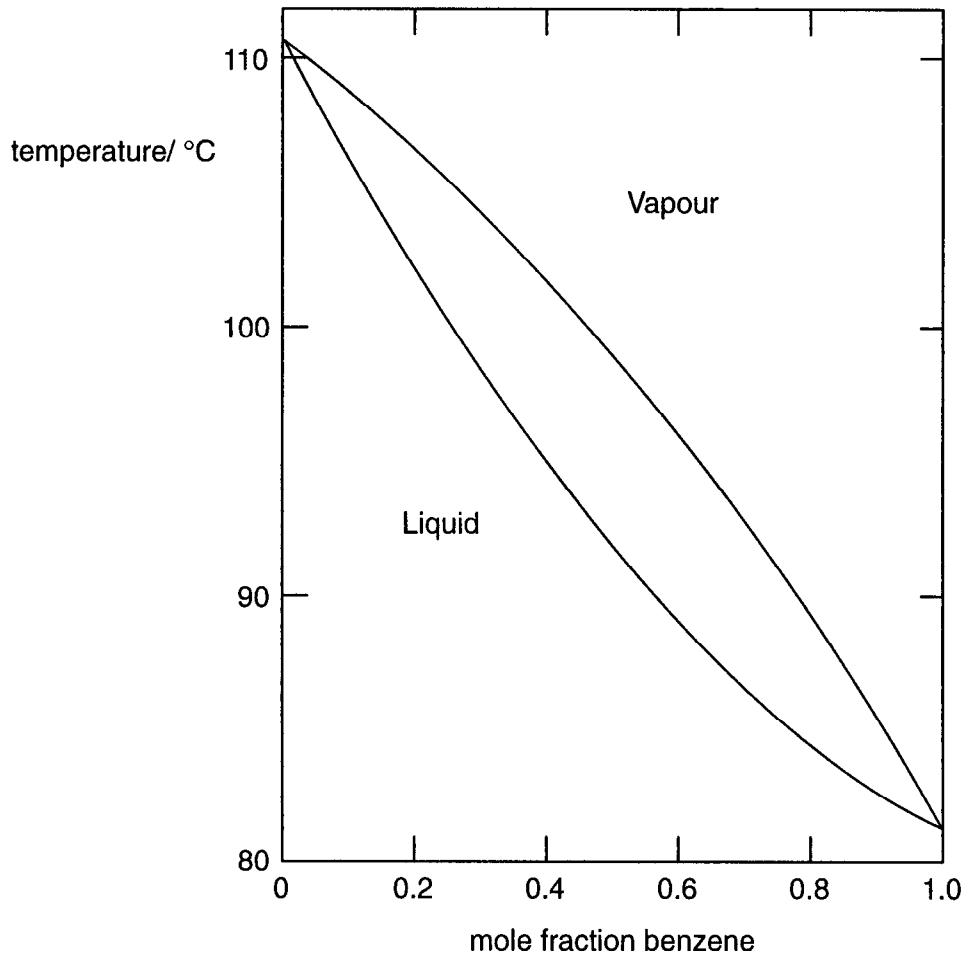

Fig. 3.1
- 3 Fig.3.1 shows the *temperature/liquid composition* and *temperature/vapour composition* curves for mixtures of benzene and methylbenzene.
- (a) Use Fig. 3.1 to estimate the boiling point of methylbenzene.
(ii) The number of theoretical plates required for fractionation can be determined by graphical means. Using Fig. 3.1, estimate the number of theoretical plates needed to produce a distillate of at least 0.95 mole fraction of benzene from a mixture of benzene and methylbenzene containing 0.2 mole fraction of benzene. Show how you arrive at your answer.